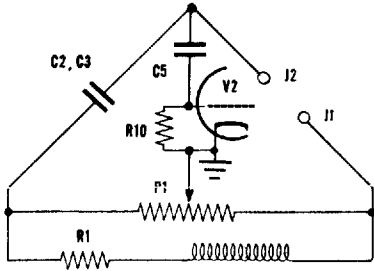

Fig. 1
- Fig. 1. Bridge circuit for "10mmfd - 5000mmfd" range (C2) and ".001 mfd-.5 mfd" range (C3).